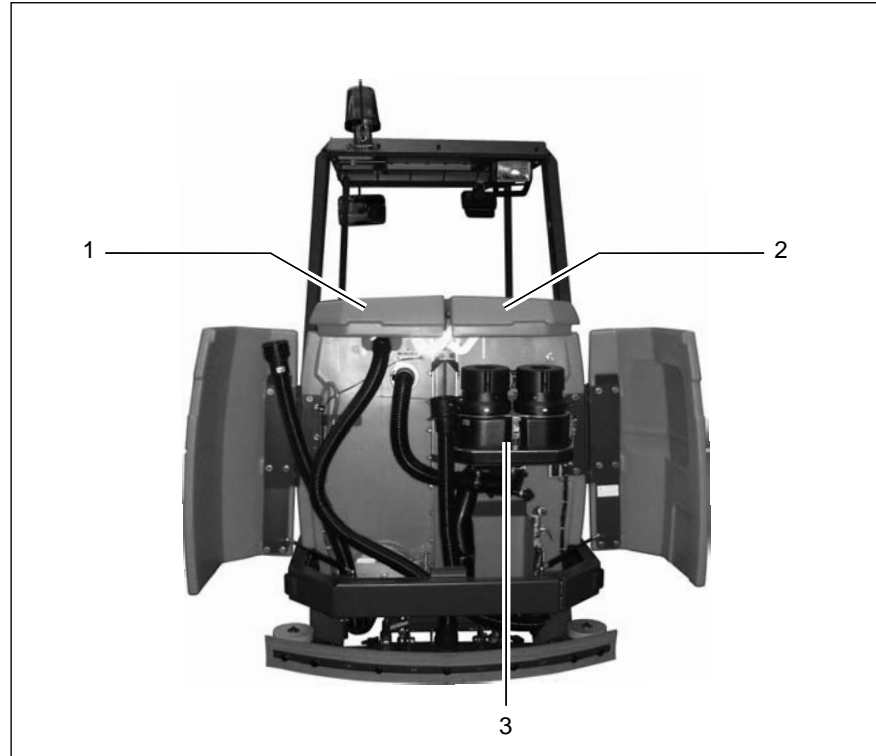

Fig. 16
3.1.4 Suction turbines (suction) (Fig. 16/3)
3.1.5 Fresh water tank (Fig. 16/2)
3.1.6 Recovery tank (Fig. 16/1)